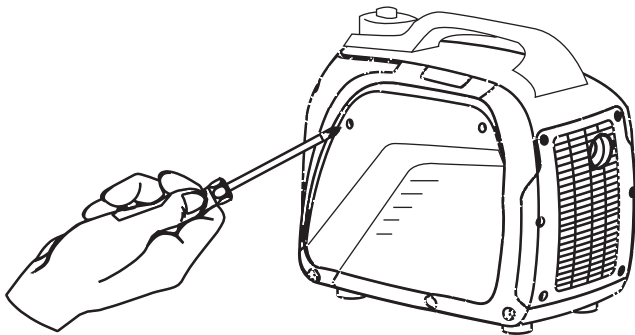

Figure 1: Engine Service Panel
1. Loosen the screw and remove the engine oil fill/drain plug service panel to access the oil fill/drain plug (see Figure 1).